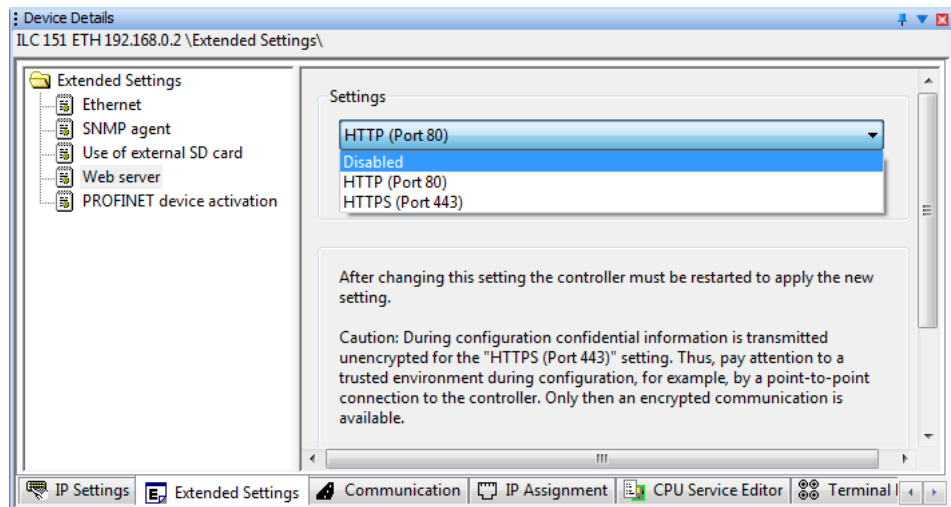

Figure 3-30 Disabling HTTP
- Click "Send" (hidden by the drop-down list in Figure 3-30) to transmit the setting to the Inline controller.